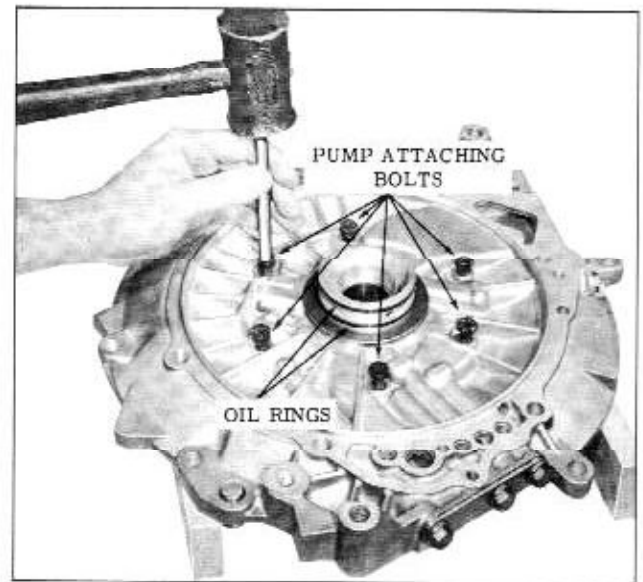

Fig. 3-58 Removing Oil Pump
2. Support cover so that pump is off bench and gently tap loosened bolts to disengage pump from case cover. (Fig. 3-58)
7. Remove 3 case cover bolts, plate and gasket and the remaining bolt and seal in the case cover, if necessary for cleaning passages. (Fig. 3-58)